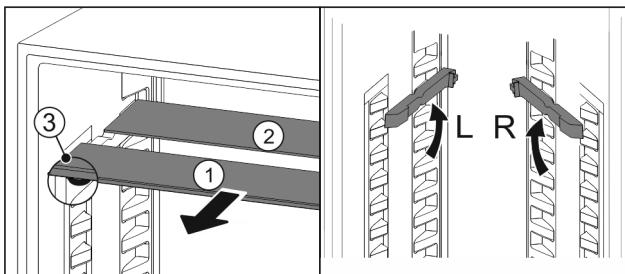

Fig. 69
- ▶ Pull the glass panels out Fig. 69 (1) from the front, one at a time.
- ▶ The glass panel Fig. 69 (1) with the trim strip is at the front.
- ▶ The stops Fig. 69 (3) point downward.